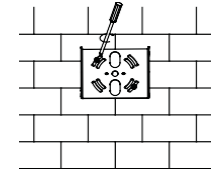

Figure 8
5. Using appropriate hardware (provided by others), attach the mounting plate to the wall (see Figure 8).